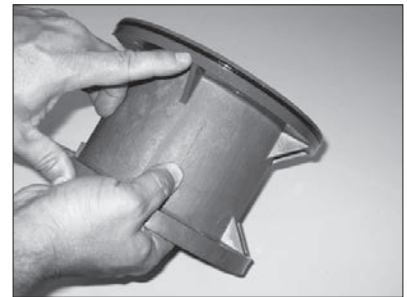

Figure 36
3. Inspect the motor adapter o-ring (item 12C). Replace if damaged. If it is reusable, lubricate it with a chemically compatible lubricant. See figure 36.